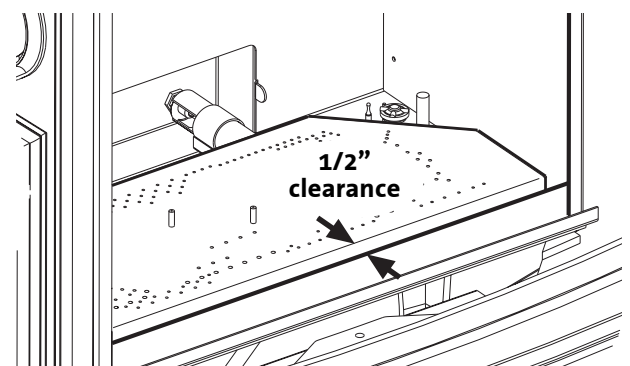

Figure 25. Correct Burner Position.
10. Replace the Burner Plate. Engage the burner tube with the Air Shutter assembly as in fig. 25. Be sure the burner is securely engaged with the two support brackets at the front of the firebox and push the plate back toward the rear of the firebox. When correctly positioned, there will be  $\frac{1}{2}$ " (13 mm) clearance between the burner plate and the front of the firebox. See fig. 25.